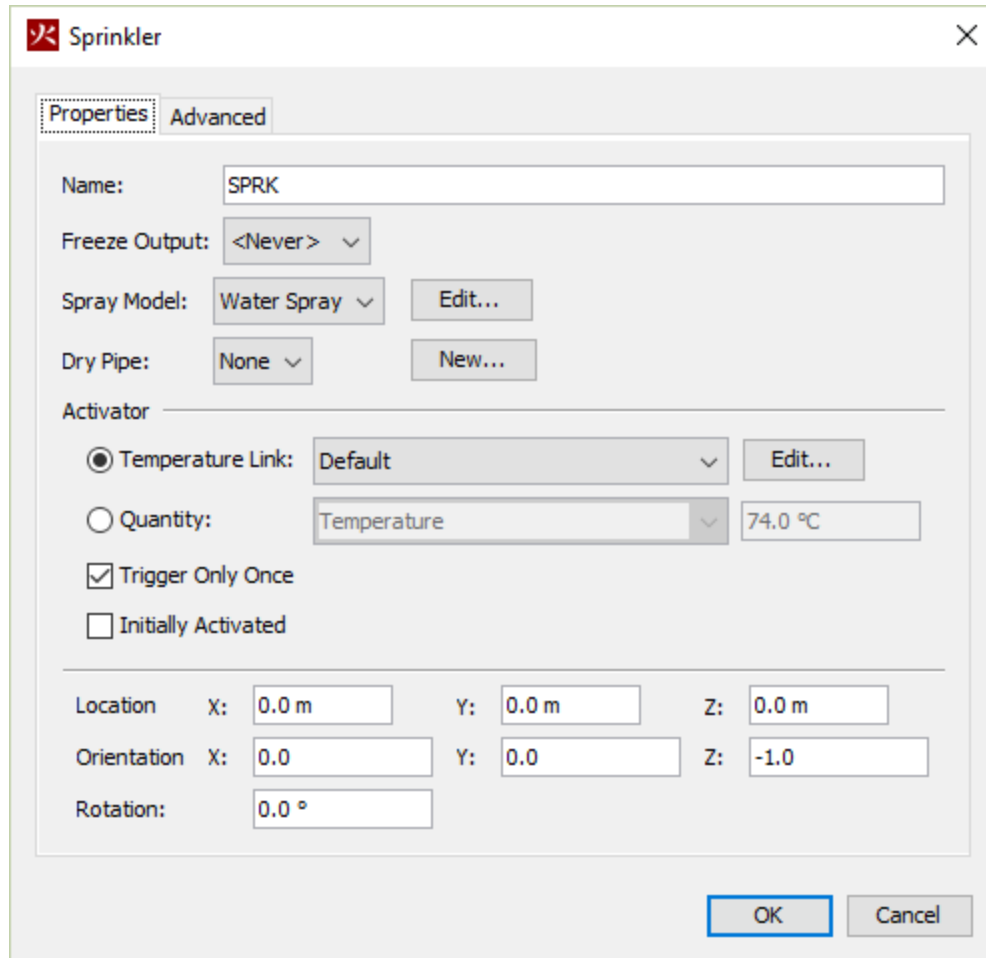

Figure 117. Creating a new sprinkler
1. On the **Devices** menu, click **New Sprinkler**. This will display the **Sprinkler** dialog, Figure 117.